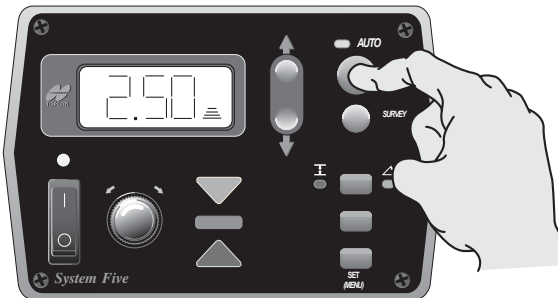

Figure 5-8. Selecting Automatic Mode
4. Press the Auto/manual button to put the Control Box into automatic mode (Figure 5-8). The Auto LED will light up.